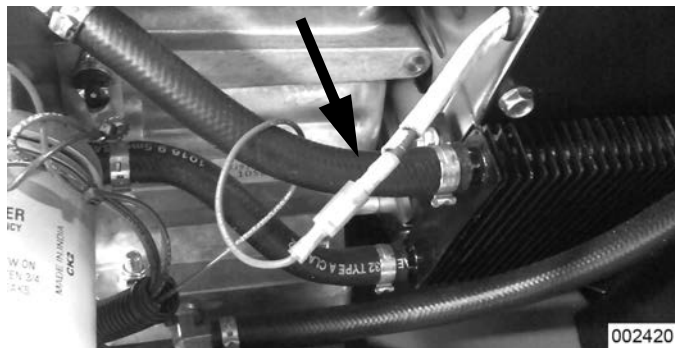

Figure 4-51. Wire 18 Connection
- See Figure 4-51. Back probe the harness connector for wire 18 with one meter lead. Connect the other meter lead to clean frame ground or preferably the battery negative post.